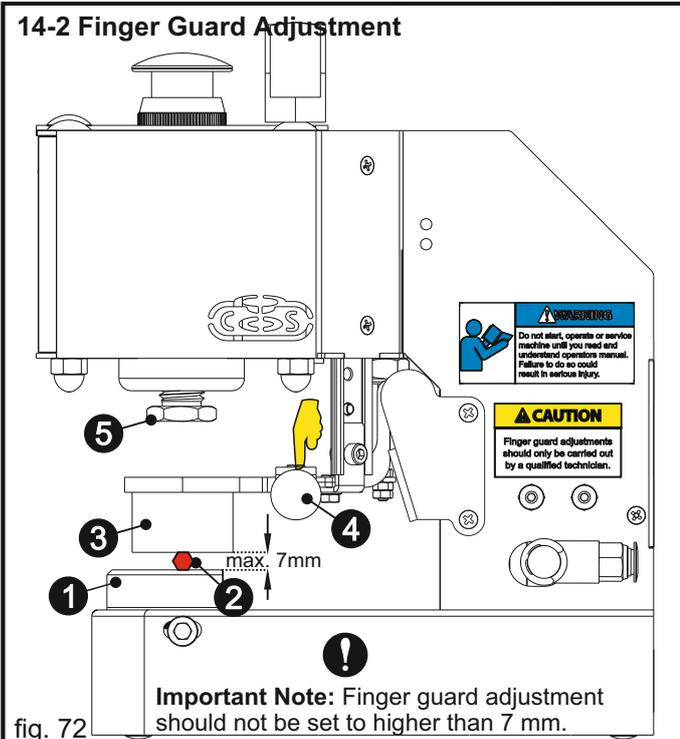

fig. 72
**!For safety reasons: Finger guard adjustment (operational height) should not be set to higher than 7 mm. (fig.72).**
For decreasing the **operational height** between finger guard and lower die, loosen the allen screws (6) with allen key. Turn the allen screw (7) on the back side of the machine in clockwise direction. Tighten the allen screws (6) & repeat the test shown in (fig. 72). This setting will increase the safety level of the operation as well.
For increasing the **operational height** between finger guard and lower die, loosen the allen screws (6) with allen key. Turn the allen screw (7) on the back side of the machine in counterclockwise direction. Tighten the allen screws (6) & repeat the test shown in (fig. 72). This setting allows you to attach the eyelets on thicker materials.